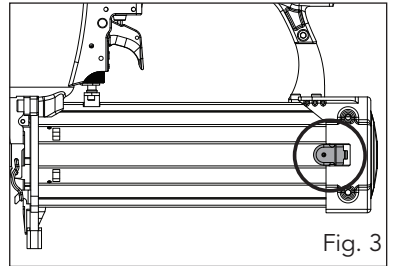

Fig. 3
1. Grip the handle firmly with one hand and with the other hand press down on the cover latch to release the magazine cover (fig. 3).